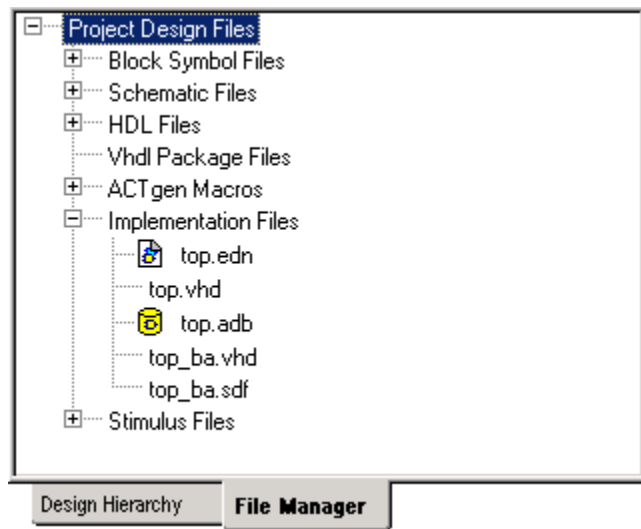

Figure 33 - Top Designer files in Libero IDE File Manager
7. **Save and Close Designer.** From the File menu, click **Exit**. Select Yes to save the design before closing Designer. Designer saves all of the design information in a *.adb file. The file *top.adb* appears under the Implementation Files on the File Manager tab in Libero IDE (Figure 33). You can reopen this file by right clicking and selecting **Open in Designer** to launch the Designer application.